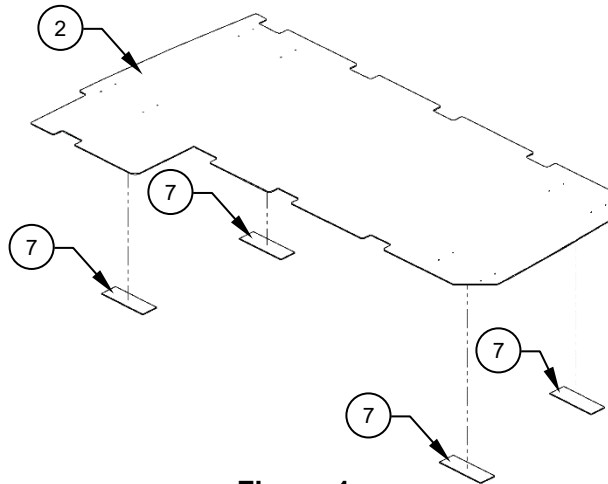

Figure 1
1. Make the aircraft ready for maintenance. Gain access to the baggage compartment. Reference Figure 1.
3. Locate the Floor Panel, Assy, (Item 2), so that it is centered and clears all aircraft structure. Transfer 16x hole locations from the Floor Panel, Assy, (Item 2), to the baggage compartment floor with a permanent marker. Reference Figure 1.